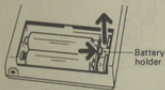

Fig. 3
2. Remove the battery holder of the silver oxide batteries while pushing the holder in the direction of the arrow shown in Fig. 3.